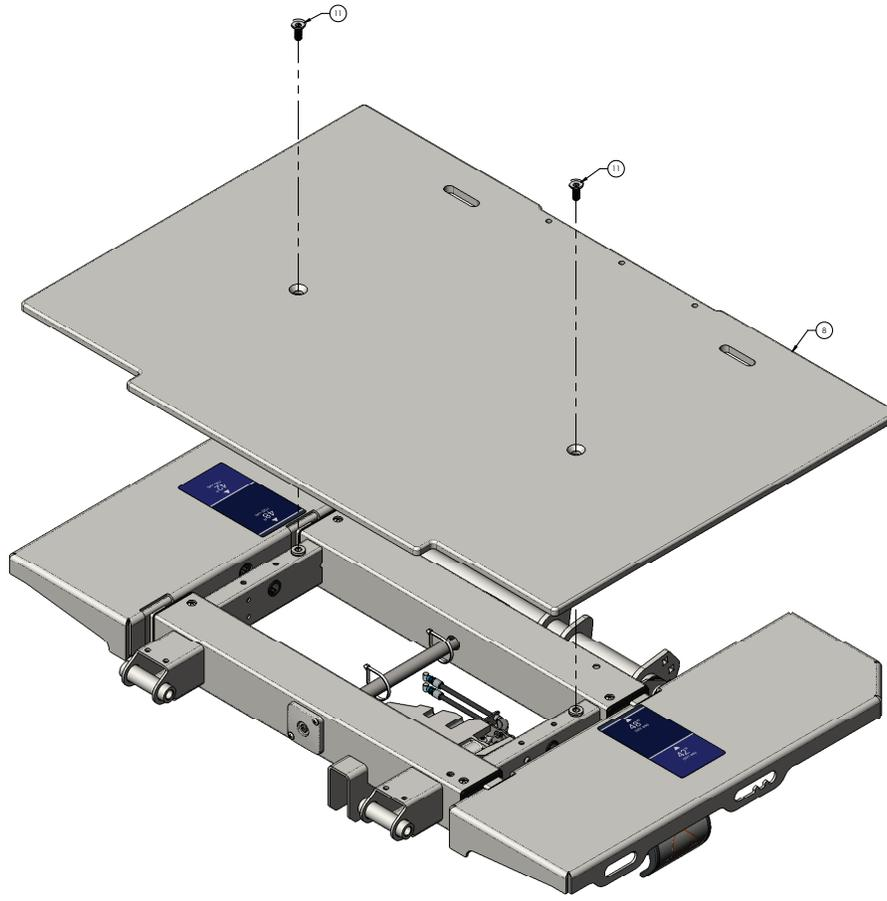

Figure 21 – DPM board replacement, foot
9. Working from the foot right, use a T40 Torx driver to remove and save the two screws (11) that secure the foot deck cover (8) to the foot frame (Figure 21). Remove and save the foot deck cover.